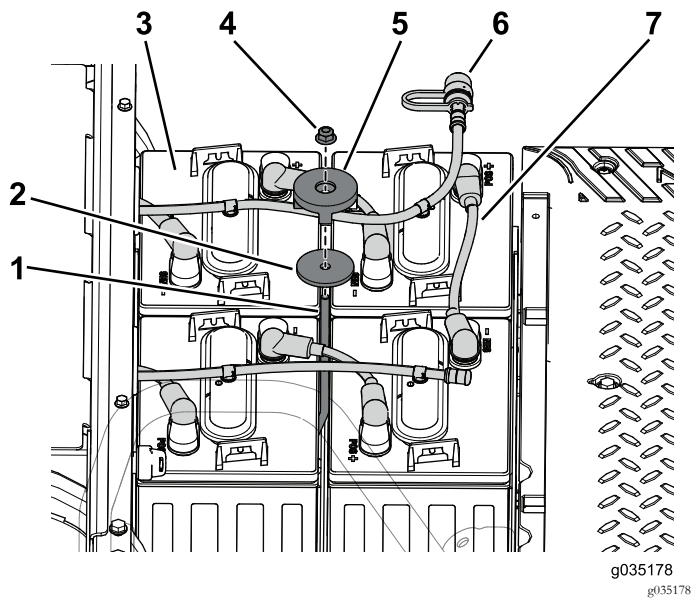

Figure 57
1. Remove the flange nut, battery hold-down, and washer securing the batteries to the front battery tray (Figure 57).
2. Disconnect the watering hose from the batteries in the front battery tray (Figure 57).